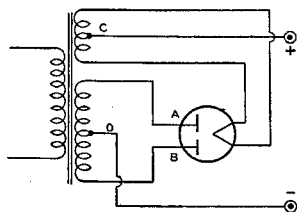

Fig. 12
**Maximum peak inverse voltage** characteristic of a rectifier tube is the highest peak voltage that a rectifier tube can safely stand in the direction opposite to that in which it is designed to pass current. In other words, it is the safe arc-back limit with the tube operating within the specified temperature range. Referring to Fig. 12, when plate A of a full-wave rectifier tube is positive, current flows from A to C, but not from B to C, because B is negative. At the instant plate A is positive, the filament is positive (at high voltage) with respect to plate B. The voltage between the positive filament and the negative plate B is in inverse relation to that causing current flow. The peak value of this voltage is limited by the resistance and nature of the path between plate B and filament. The maximum value of this voltage at which there is no danger of breakdown of the tube is known as maximum peak-inverse voltage. The relations between peak inverse voltage, rms value of a-c input voltage, and d-c output voltage depend largely on the individual characteristics of the rectifier circuit and the power supply. The presence of line surges or any other transient, or wave-form distortion may raise the actual peak voltage to a value higher than that calculated for sine-wave voltages. Therefore, the **actual** inverse voltage, and not the calculated value, should be such as not to exceed the rated maximum peak inverse voltage for the rectifier tube. A cathode-ray oscillograph or a spark gap connected across the tube is useful in determining the actual peak inverse voltage. In single-phase, full-wave circuits with sine-wave input and with no condenser across the output, the peak inverse voltage on a rectifier tube is approximately 1.4 times the rms value of the plate voltage applied to the tube. In single-phase, half-wave circuits with sine-wave input and with condenser input to the filter, the peak inverse voltage may be as high as 2.8 times the rms value of the applied plate voltage. In polyphase circuits, mathematical determination of peak inverse voltage requires the use of vectors.